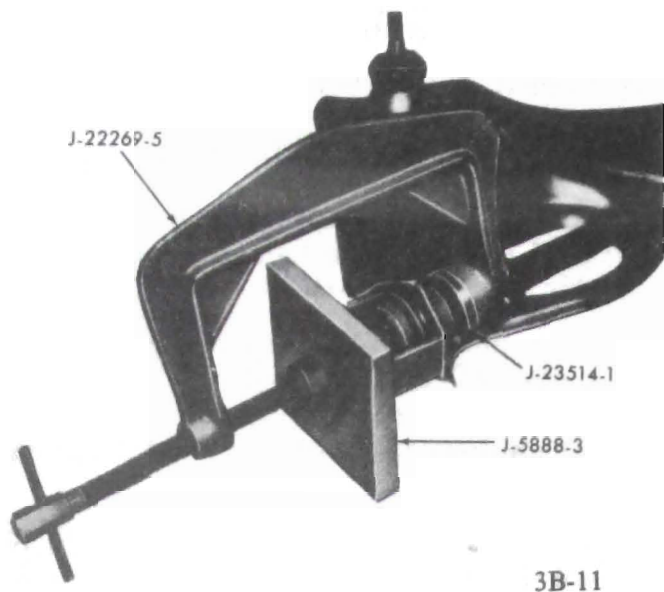

Figure 3B-11
2. Install the support shaft and bushing on the other side of the control arm with Special Tools J-22269-5 and Adapter J-23514-2 as shown in Figure 3B-14. Mounting surface of shaft should be in same relative position to arm as when removed.